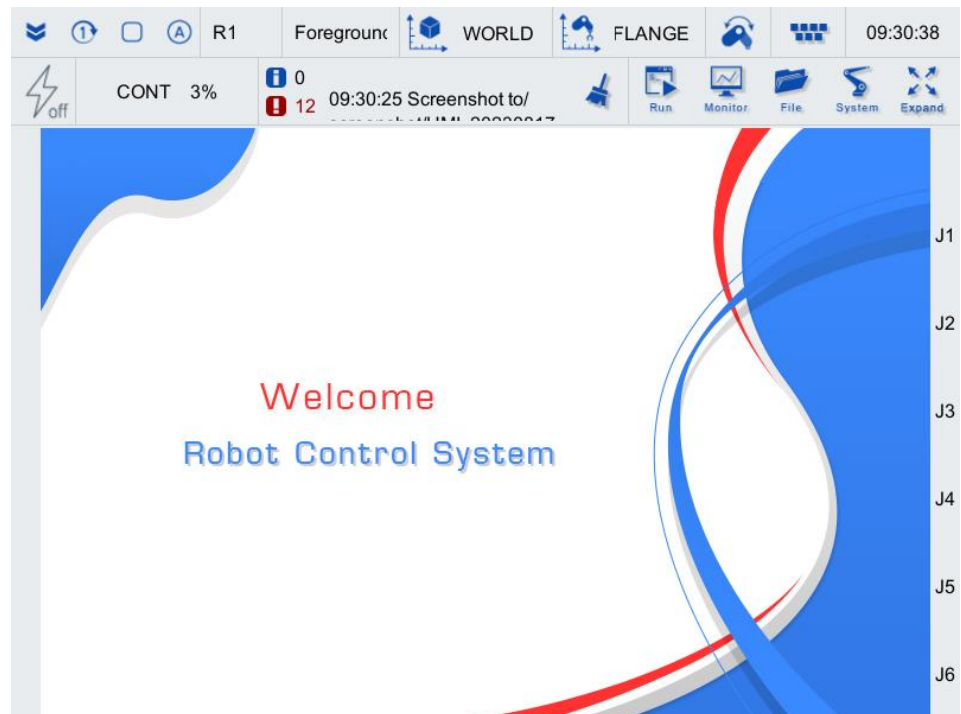

Figure 5-10 Teach pendant main interface
Step1. Log in to the teach pendant and you will see the main interface of the teach pendant as shown in Figure 5-10.